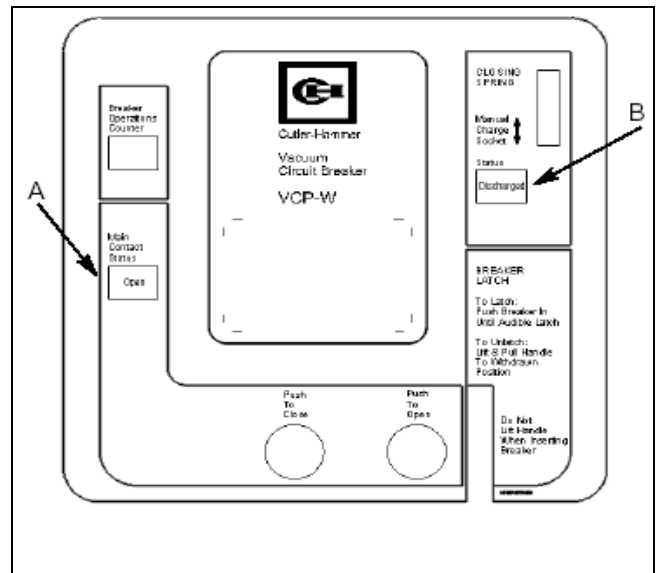

Figure 6-5 Status Indicators (“A” shows the contact Status indication and “B” and spring indication) (Some breakers will not have the escutcheon that is shown).
Step 1 - On the front cover identify the status indicators. MAKE SURE THE CLOSING SPRING STATUS INDICATES “*Discharged*” AND THE MAIN CONTACT INDICATOR SHOWS “*Open*” (Figure 6-5).